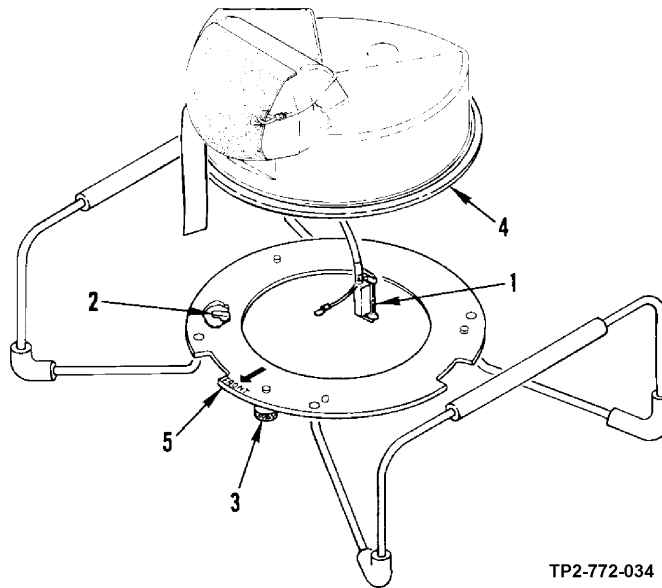

Figure 3-28. PNVNS Turret Removal from PNVNS Holding Fixture
(2) Remove PNVS turret assembly from PNVS holding fixture as follows:
(a) Disconnect turret cable connector (1, figure 3-28) from holding fixture connector clamp (2).